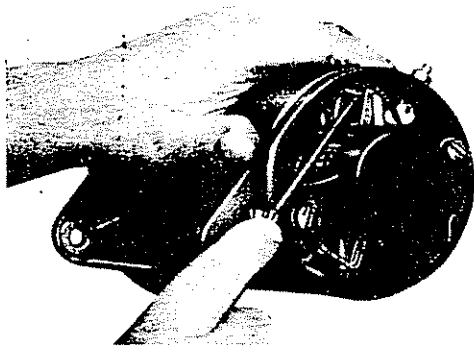

Fig. 15-13/1
2. Insert a suitable screw driver under the carbon brush below the connecting wire and carefully push the brush upward until it engages in the gap between the brush holder (Fig. 15-13/1) and the armature housing. In this position the brush spring presses the carbon brush into an ablique position.